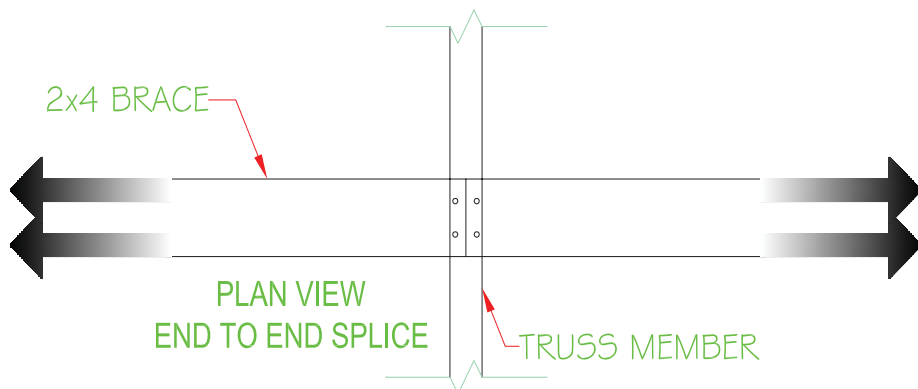

Figure 3. Butt end to end.
- 3.) Butt end to end: **2 end nails * 53#/nail = 106#** (See Figure 3.)